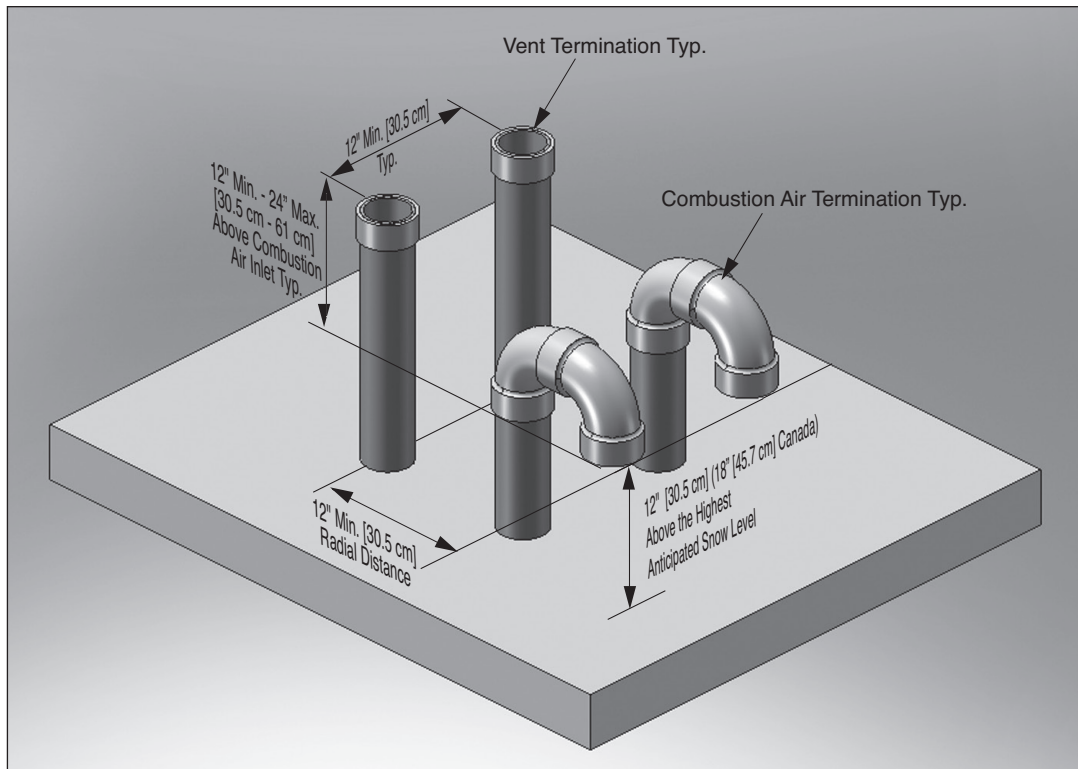

Fig. 5 - Direct Vent - Vertical Termination of Multiple Prestige Boilers
2. The roof penetration of the vent and combustion air piping must be such that the combustion air inlet is a minimum 12" [30.5 cm] from the adjacent vent pipe of the other boiler for installations in the U.S. as shown in *Fig. 5* on page 16. For installations in Canada, provide clearances as required by CAN/CSA B149.1.